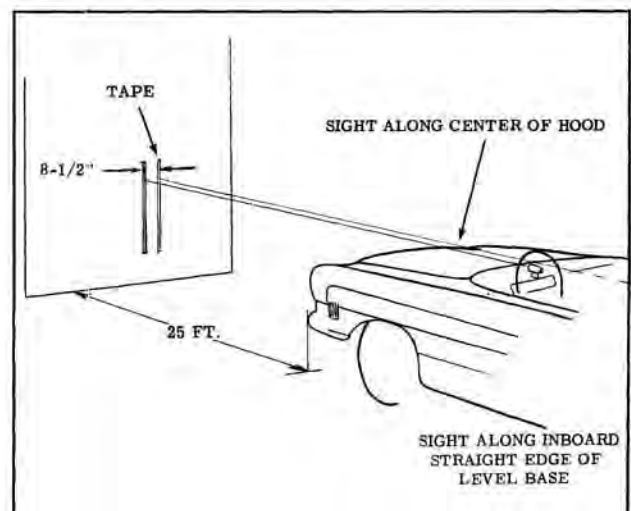

Fig. 12-45 Horizontal Aim
2. Remove the pivot pin from the right side of the phototube unit base, (Fig. 12-45), then lift off the mounting plate and remove the phototube unit and wiring.
#### Horizontal Aiming Adjustment (Fig. 12-45)